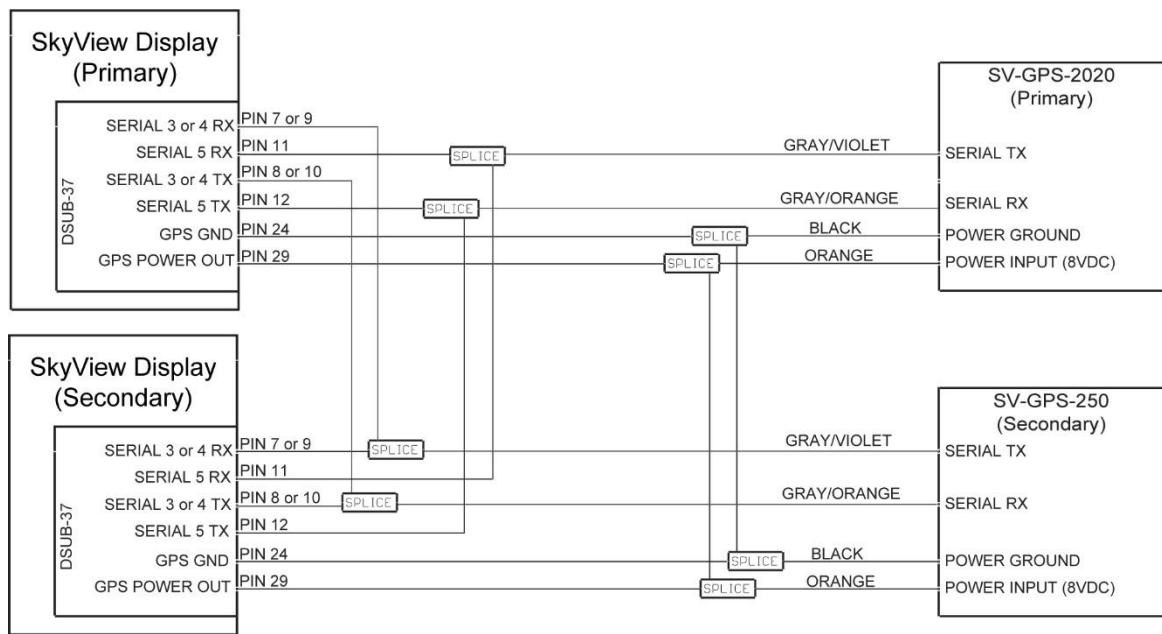

Figure 122: SV-GPS-2020 and SV-GPS-250 Connected to Multiple Displays (not applicable to SkyView SE)
If your installation has two or more displays and more than one SV-GPS-250/2020 (including one SV-GPS-250 and one SV-GPS-2020, all four wires of the SV-GPS-250 and/or SV-GPS-2020 must be connected to the *primary and secondary displays*, as shown in Figure 122). Note that secondary SV-GPS-250's transmit (TX) and receive (RX) wires are connected to another serial port, preferably port 3 or 4.
The following configuration uses Serial Port 4 for the (secondary) SV-GPS-250 as shown in Figure 122: SV-GPS-2020 and SV-GPS-250 Connected to Multiple Displays. As explained there, use of Serial Port 4 for the SV-GPS-250 (secondary GPS) is for illustration only. Serial Port 1, 2, 3, or 4 (if available) may be used for the SV-GPS-250 (secondary GPS).